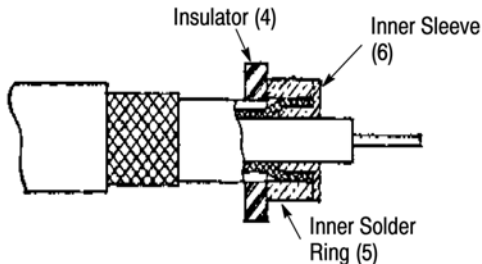

Figure 4
Position insulator (4) against inner solder ring (5). See Figure 4.